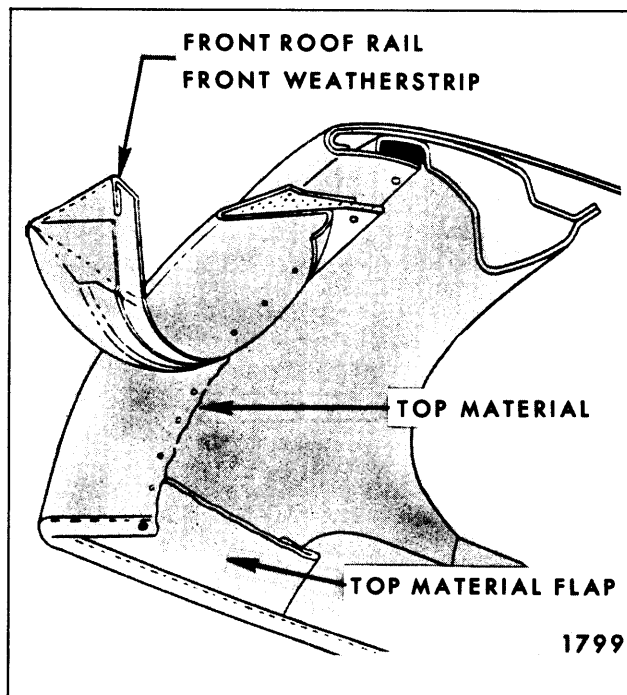

Fig. 13-39—Top Cover at Front Roof Rail
14. Lower top and complete tacking of top cover to front roof rail. Trim off excess material (Fig. 13-39).